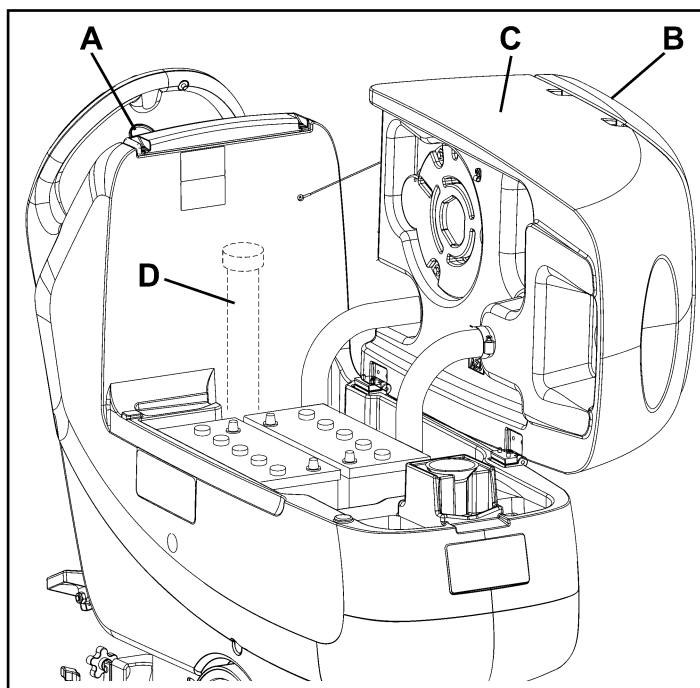
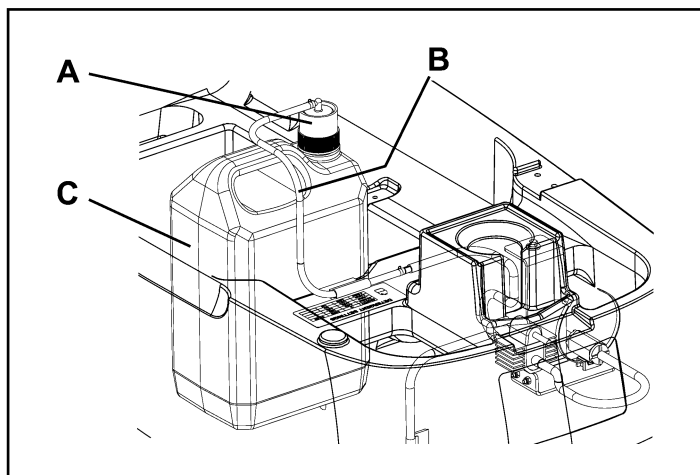

Figure 34
Figure 35
Clean the detergent tank (C, Fig. 35) as shown below:
2. Turn the ignition key (A, Fig. 34) to "0".
3. Open the cover (B) and check that the recovery water tank (C) is empty; if necessary empty it with the drain hose (D). Close the cover (B).
4. Carefully lift the tank (C).
5. Unscrew the plug (A, Fig. 35) and disconnect the hose (B) from the tank (C).
8. Install the tank (C) and connect the hose (B).